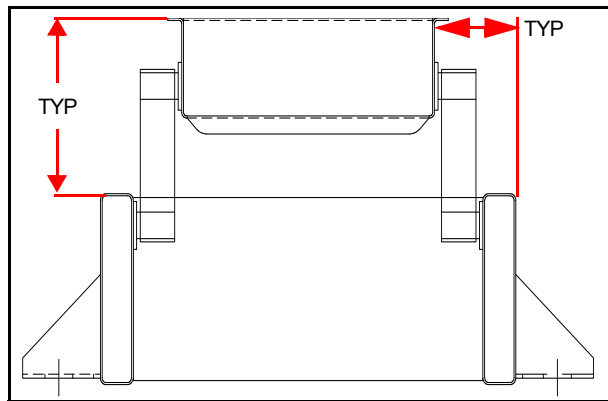

Figure 5-35 Shaker Bed Square Within the Frame
8. Referring to the equipment drawings, raise the discharge end of the bed to the specified height. Ensure that the bed is level and square within the frame (Figure 5-35).